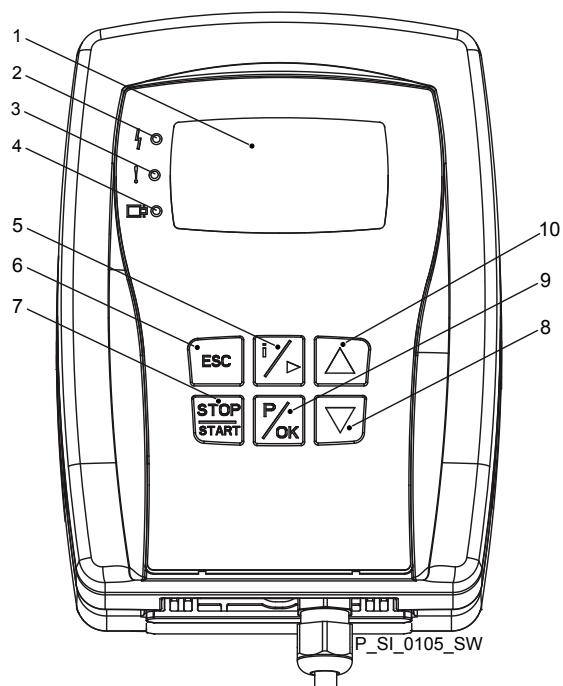

Fig. 4: HMI control elements
- 8 LEDs (as Fig. 4) and status LED CAN bus (external)